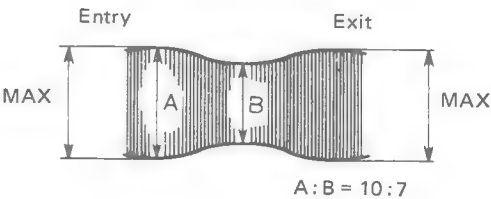

Figure 30
- 5. Adjust so that when the tracking control is shifted (when the tracking control is moved and A of the RF waveform begins to decline), the ratio between A and B in Figure 30 is better than A:B = 10:7.